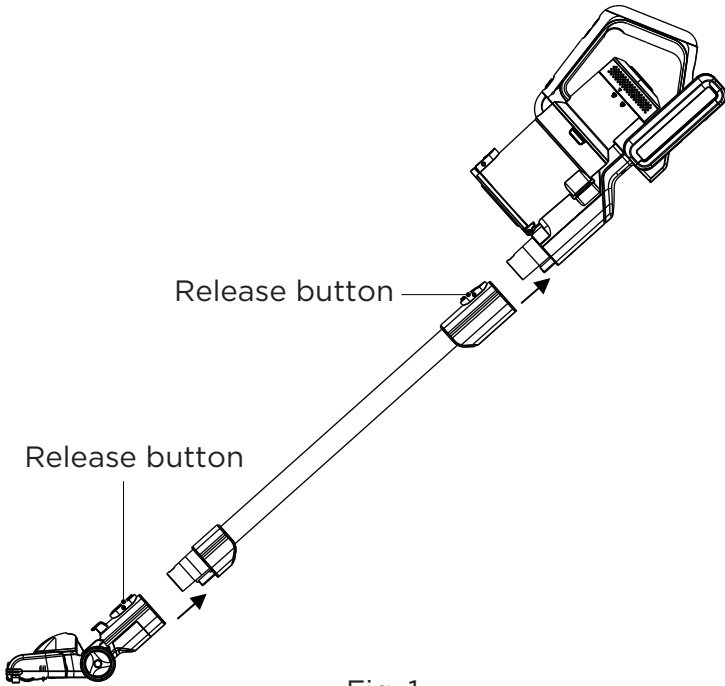

Fig. 1
1. Insert the extension tube onto the body of the vacuum as shown (fig. 1) and push to secure, a click will be heard.
2. Push fit the floor head onto the extension tube (fig. 1), a click will be heard.